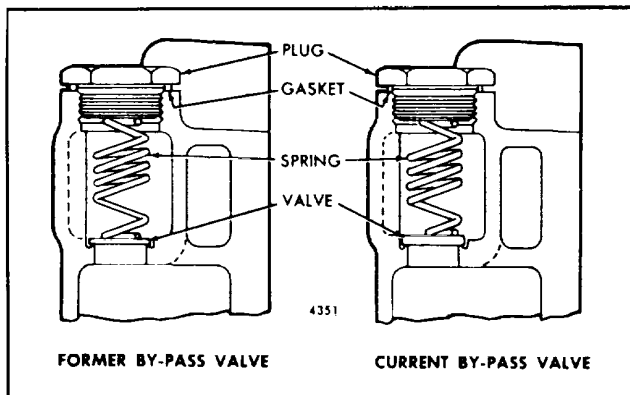

Fig. 5. By-Pass Valve
5. Reassemble and install the by-pass valve. Use only the current by-pass valve and spring (Fig. 5) for service. The current thicker valve and stiffer spring increase the by-pass pressure from 13-18 psi to 18-21 psi to permit more efficient filtration.